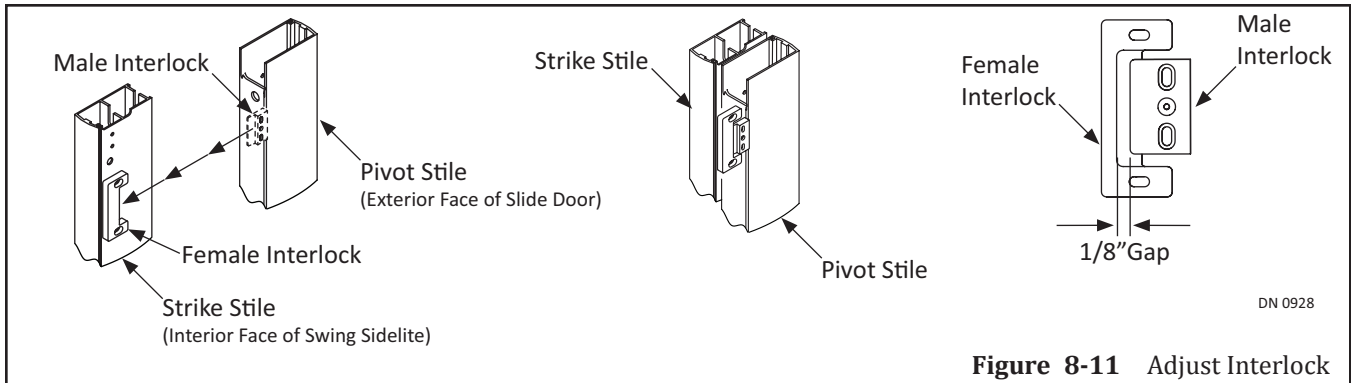

Figure 8-11 Adjust Interlock
1. Manually close the Slide Door. Please see Figure 8-11.